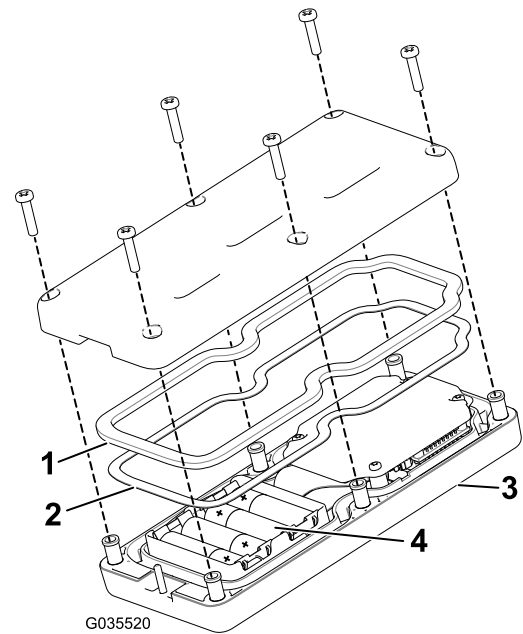

Figure 26
3. Remove the 6 screws from the back of the remote and remove the cover (Figure 26).
5. Plug each fresh battery into a terminal cradle observing proper polarity. (If the batteries are improperly installed, the unit will not be damaged, but it will fail to operate.) The cradle is embossed with polarity markings for each terminal (Figure 26).
6. If you accidentally removed the rubber seal and the steel gasket, replace them carefully into the channel in the handheld remote (Figure 26).
7. Replace the cover and secure it with the 6 screws previously removed (Figure 26) and torque them to 1.5 to 1.7 N·m (13 to 15 in-lb).